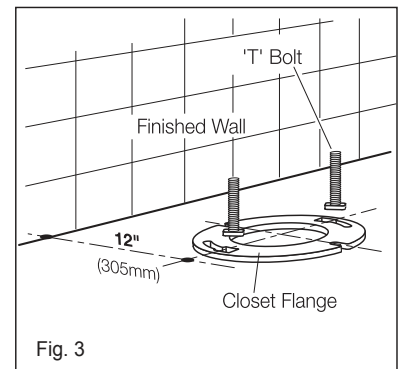

Fig. 3
It is essential for the installation of the Sydney II 305 Two Piece Washdown toilet that the closet flange be accurately set out from the finished wall as detailed in Fig.3.
- 1- Position 'T' bolts into closet flange, as detailed in Fig.3.